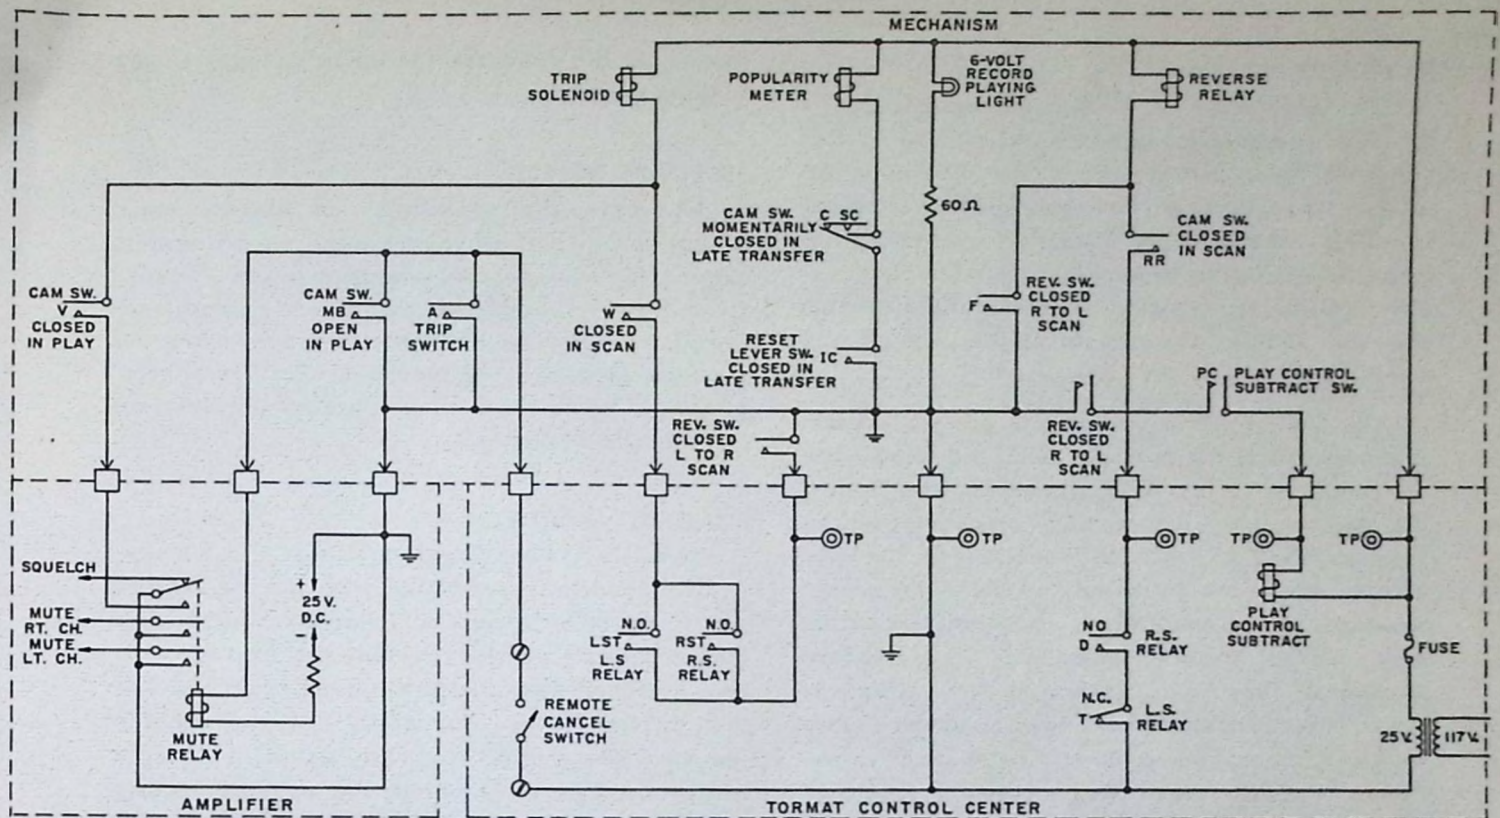

Figure 32.
The relay coil circuit is shown in Figure 32. It is energized through contacts on a reversing switch for change of scanning direction. The switch is mounted on the carriage and is actuated by "stops" at each end of the base. The switch is closed and the relay energized when the carriage has scanned fully to the right. It is open and the relay de-energized when the carriage has scanned fully to the left.
a.c., to detent the carriage at a selected record and start transfer of the record to playing position. It is energized a second time in the record playing cycle when the record is to be returned to the magazine. The circuit is shown in Figure 32.
The popularity meter indicates the number of times (up to forty) each record has been played. It is operated by a 25 volt solenoid with power supplied from the Tormat Control Center. The circuit, shown in *Figure 32*, is closed if both the IC contacts in the reset lever switch and the C and SC contacts in the cam switch are closed.